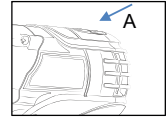

Fig. 3
- The tool is applied with the battery capacity indicator (A) on the top pad for easy view . (Fig . 3)